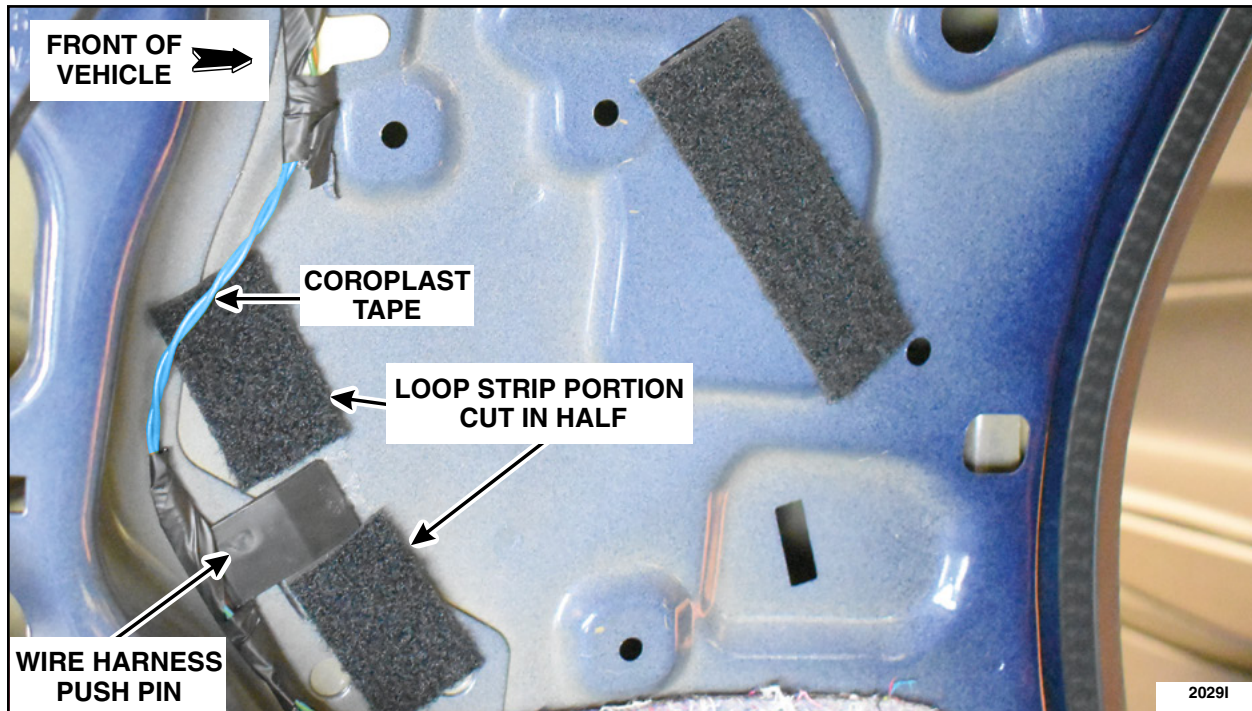

FIGURE 8
10. Apply remaining two-halves of soft loop strip. See Figure 8.